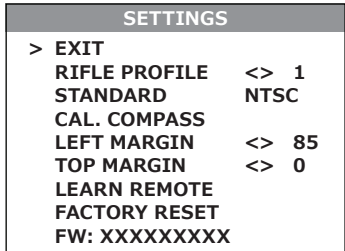

FIGURE 3-20. SETTINGS MENU
The SETTINGS menu (Figure 3-20) allows you to change the contrast, brightness, video standard, compass calibration, and temperature scale settings (in certain models), as well as to restore the settings to their factory defaults. The Firmware (FW) revision number is listed at the bottom of the menu display.